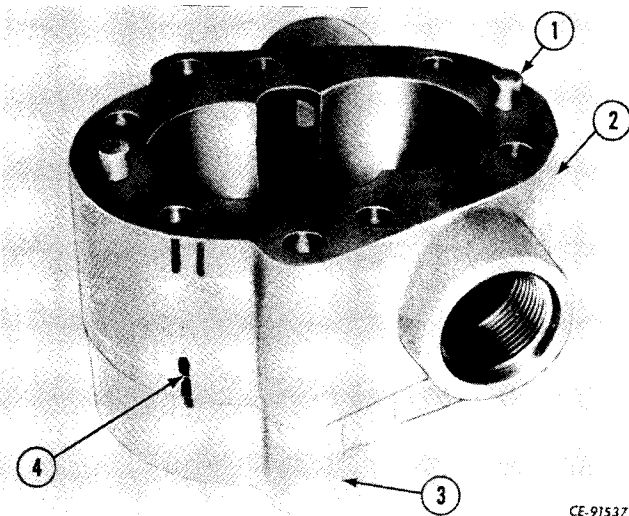

Figure 3-51
Remove the dowel pins (1, Fig. 3-51) and gear plate (2) from the body assembly (3).
Install the dowel pins (1, Fig. 3-51) in the gear plate (2) with the pins extending equal distance from each face of the plate. Install the plate on the body (3) being sure the reference marks (4) are aligned.